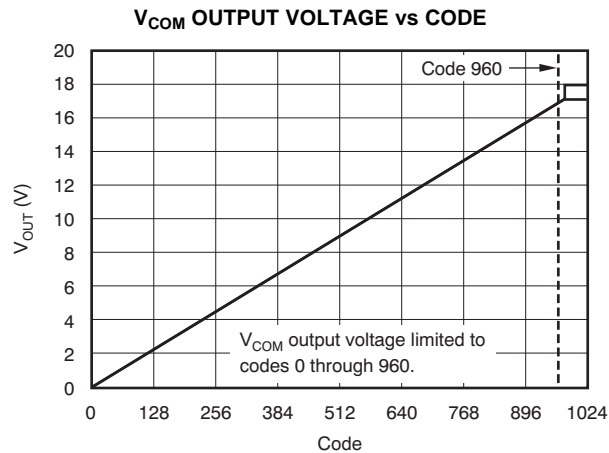

Figure 3.
(3) Observe maximum power dissipation.
(4) The V_{COM} output voltage is limited to codes 0 through 960; see Figure 3. This limitation is for V_{COM} only and does not affect DAC OUT, 1 through 8.
(5) Thermal pad attached to printed circuit board (PCB), 0l/m airflow, and 76mm \times 76mm copper area.